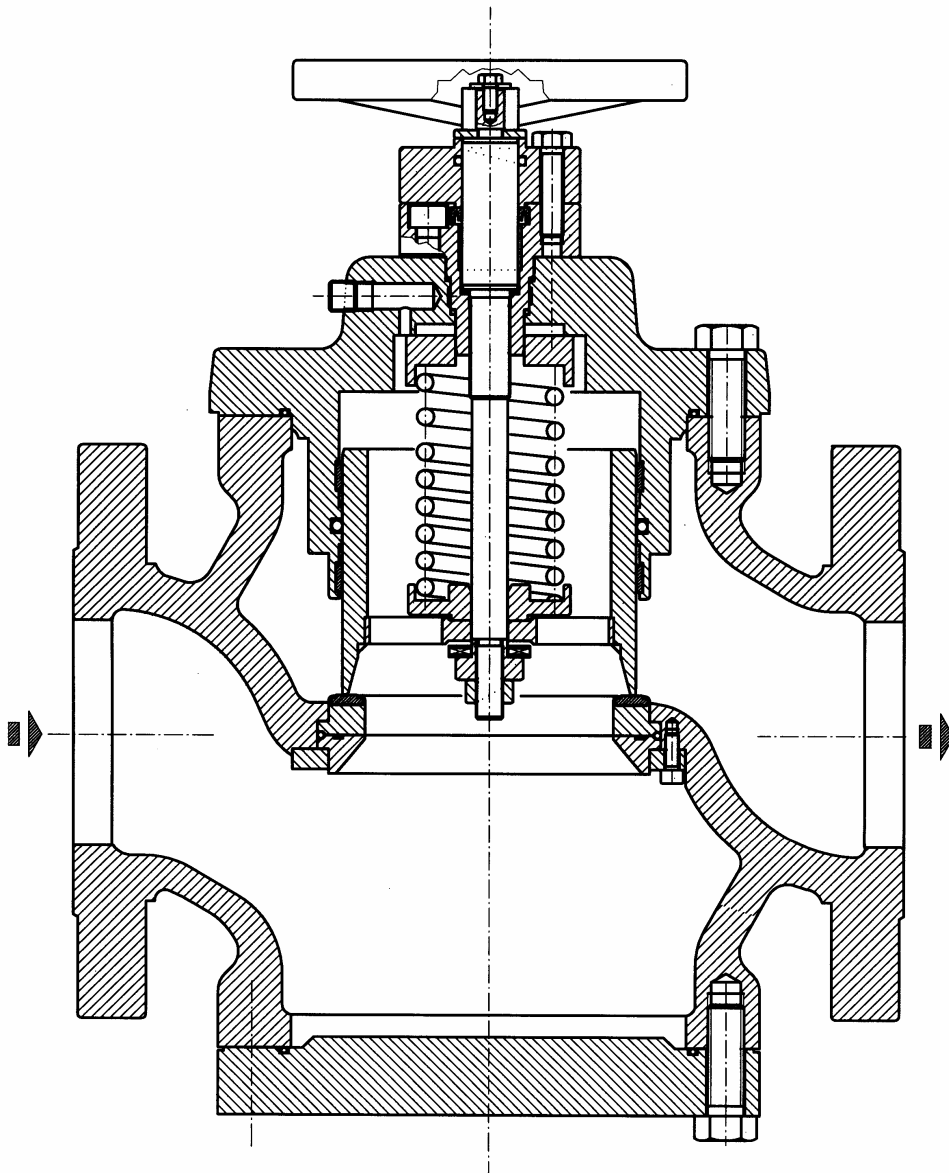

Figure 1
**VLM** ( manual control, see figure 1 )